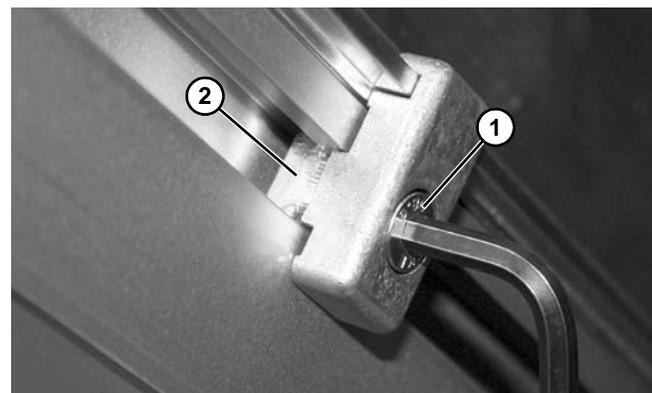

Figure 31
2. Tighten screw (Figure 31, item 1) making sure t-bar (Figure 31, item 2) rotates and engages inside of t-slot.